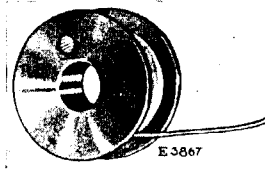
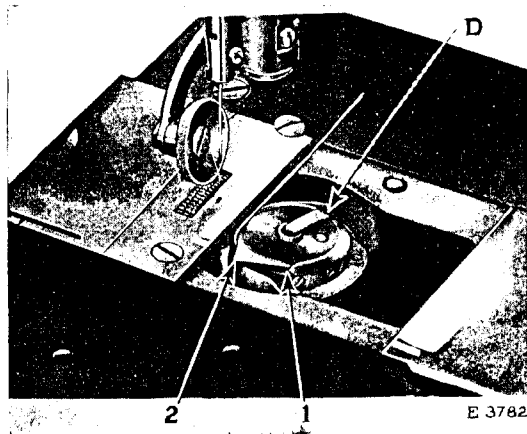

FIG. 4. DIRECTION OF THREAD ON BOBBIN
FIG. 5. BOBBIN CASE THREADED
Draw out the slide plate at the right of the needle in the bed of the machine. Insert the finger nail of the forefinger under the latch (D, Fig. 5), raise the latch and lift out the bobbin.
(see Fig. 4) and place it on the centre stud of the bobbin case, then push down the latch (D) as shown in Fig. 5. Draw the thread into the slot (1, Fig. 5), under and back of the projection (2, Fig. 5), leaving a loose end of thread about two inches long above the slide. When closing the slide plate, leave just enough space for the thread to pass through.